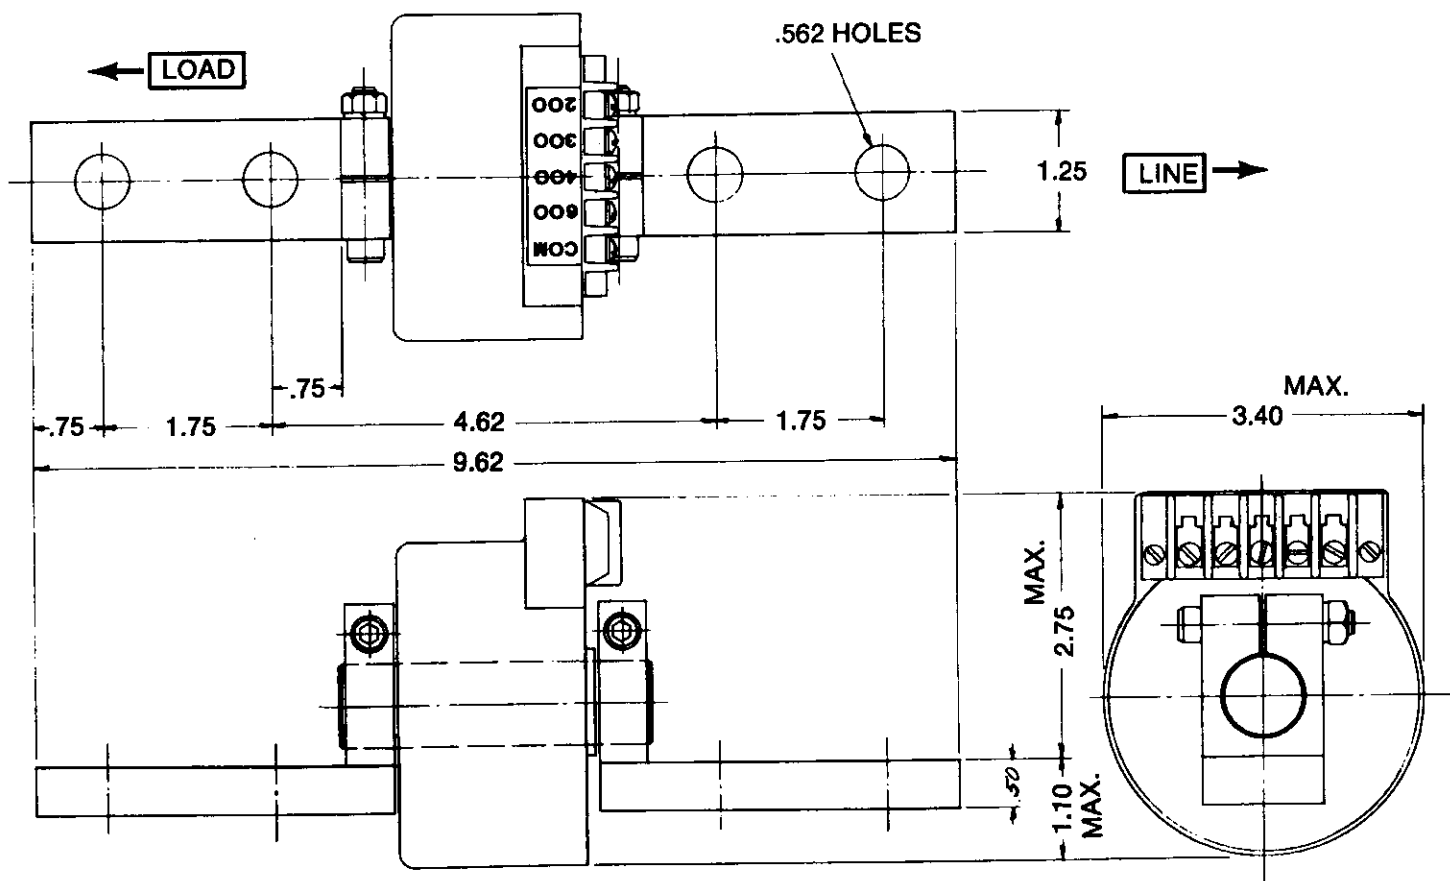

Fig. 22 — Outline of MicroVersaTrip® RMS-9 Neutral Sensors:
Conversion of the breaker is now complete. A typical example is shown in Fig. 22. Reassemble arc chutes.
1. Mount the neutral sensor (CT) in the outgoing neutral lead, normally in the equipment's bus or cable compartment. See Fig. 22 for the sensor's bar drilling plan. Check to insure that the neutral and phase sensors match, i.e., have the same ampere range.